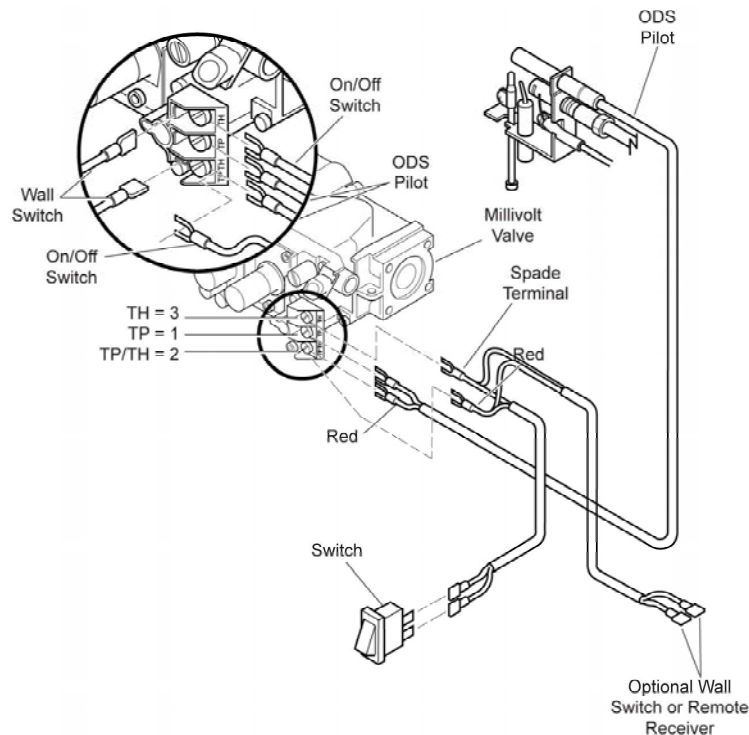

Figure 17 - Wiring Diagram
5. Connect the connectors to the two .25" male connectors located on the left side when facing the unit (See Figure 17, page 12). Do not let wire touch grate or burner.